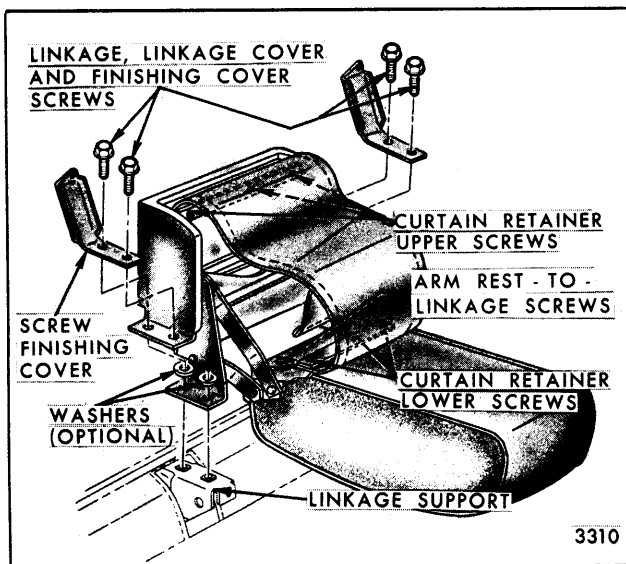

Fig. 15-39—Front Seat Center Arm Rest (Full Width Seat with Notch Down Seat Back)
2. Carefully pull curtain back sufficiently to remove screws securing center arm rest to linkage and loosen outer screws securing curtain lower retainer to arm rest (Fig. 15-39).
3. Disengage arm rest from support linkage and turn arm rest upside down on trim panel finishing cover. Remove arm rest curtain upper retainer screws (Fig. 15-39); then, remove arm rest and curtain from seat.
2. Working between arm rest and seat back, remove fastener at both sides of arm rest securing front end of screw finishing covers (Fig. 15-39).
3. On two-door styles, push one seat back to full forward position. Carefully pull up front of screw finishing cover sufficiently to expose arm rest linkage and linkage cover attaching screws; then, remove screws (Fig. 15-39). Repeat this operation on opposite side of arm rest; then, carefully remove arm rest linkage cover and linkage assembly from seat.
**NOTE:** If washers are present between arm rest linkage and linkage supports on seat (Fig. 15-39), note location and number of washers used to facilitate installation in same position. Washer(s) are used to align arm rest to front seat back(s).
4. To install, reverse removal procedure. Prior to bending down screw finishing covers, check alignment and operation of arm rest. Where necessary to align arm rest with seat back(s) install washer(s), as required, between arm rest support and support on seat (Fig. 15-39).